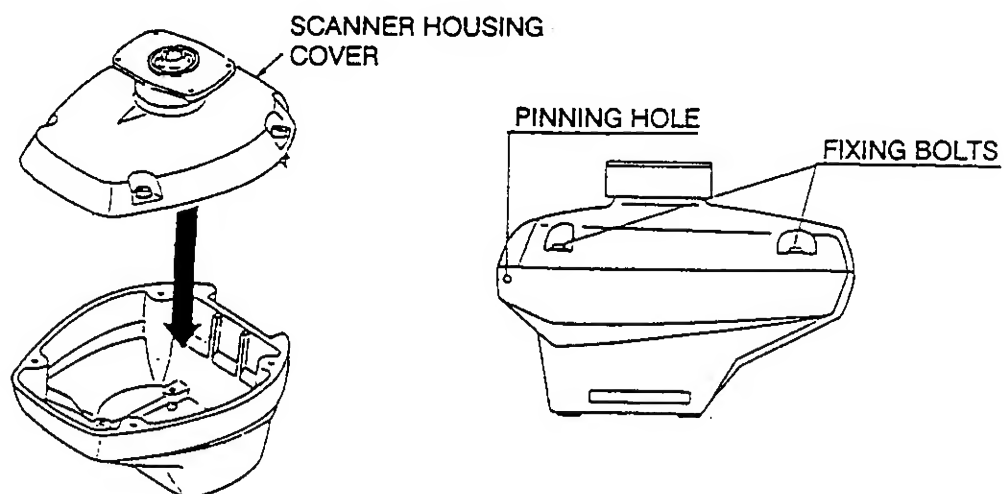

*Figure 5-3 Passing the signal cable through the scanner housing*
- 5) Connect the lead wires to RTB-9100 in the scanner housing by referring to the interconnection diagram on page S-1. Fasten the shield (inner and outer combined) at the bottom of the scanner housing as shown in Figure 5-3.